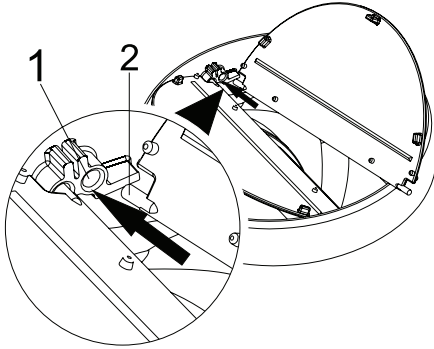

Figure 2
- Insert the plastic pin (Figure 2/area no. 2) on the pin socket on the motor exhaust (Figure 2/area no.1). Then bend the flap lightly to insert the other pin on the flap and insert the other pin to its socket (Figure 2).